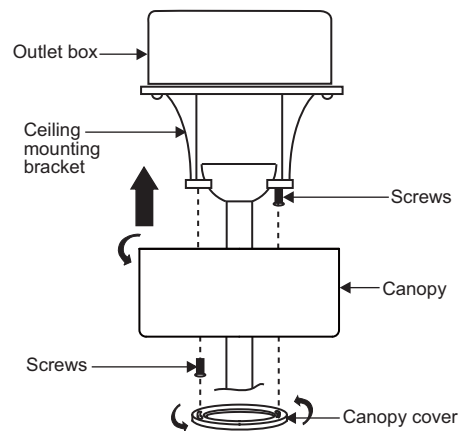

Fig. 15
Step 2. Slide the canopy up to the mounting bracket and place one of the key hole slots over the mounting screw on the mounting bracket. Rotate the canopy until the screw head locks in place at the narrow section of the key hole. See figure 15.
**NOTE:** Adjust the canopy screws as necessary until the canopy and canopy cover are snug. (Fig. 15)